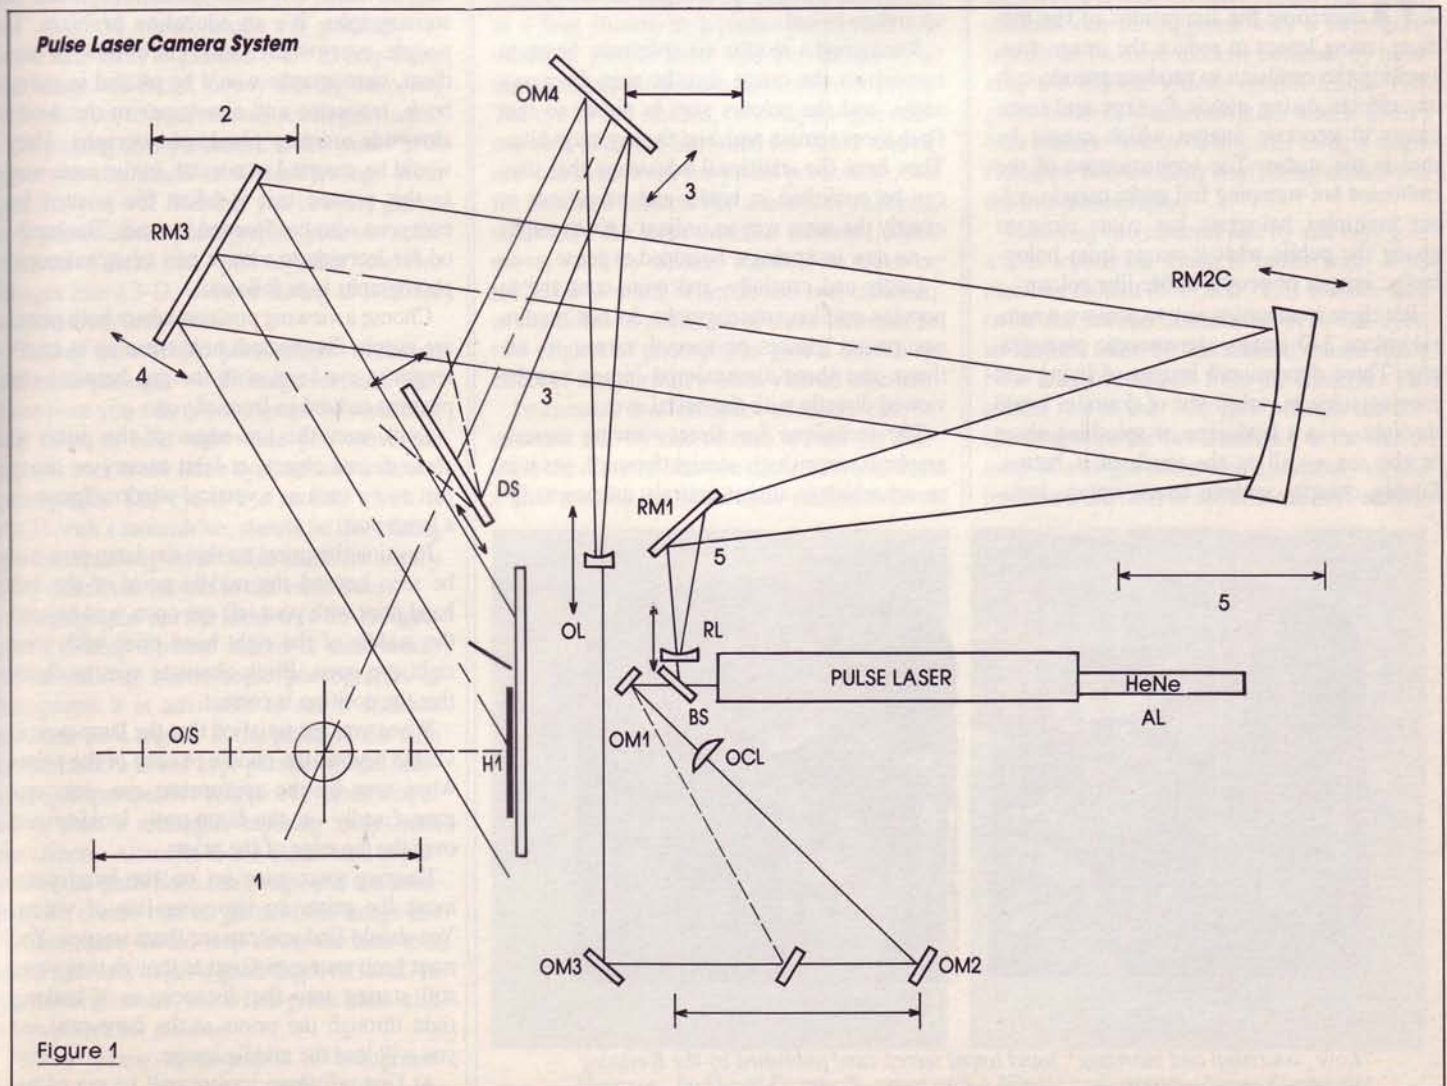

Figure 1
the H1. (Figure 1, Number 1)
2. Reference Beam (Figure 1, Numbers 4 &
- A. Brewster's angle preferred (4)
3. Equal Beam Path lengths (Figure 1, Num-
4. Object Beam Lighting (Figure 1, Number
Figure 1: Side view of a split beam overhead setup, positions for the components are indicated with descriptions below including the camera's adjustment features.